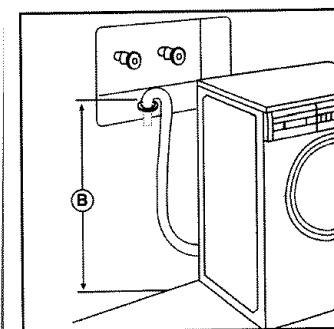

Fig. 5 - Drainage
25 inches (62 cm) min.; 34 inches (86 cm.) max from end of drain hose to bottom of washer (B) (fig. 5).